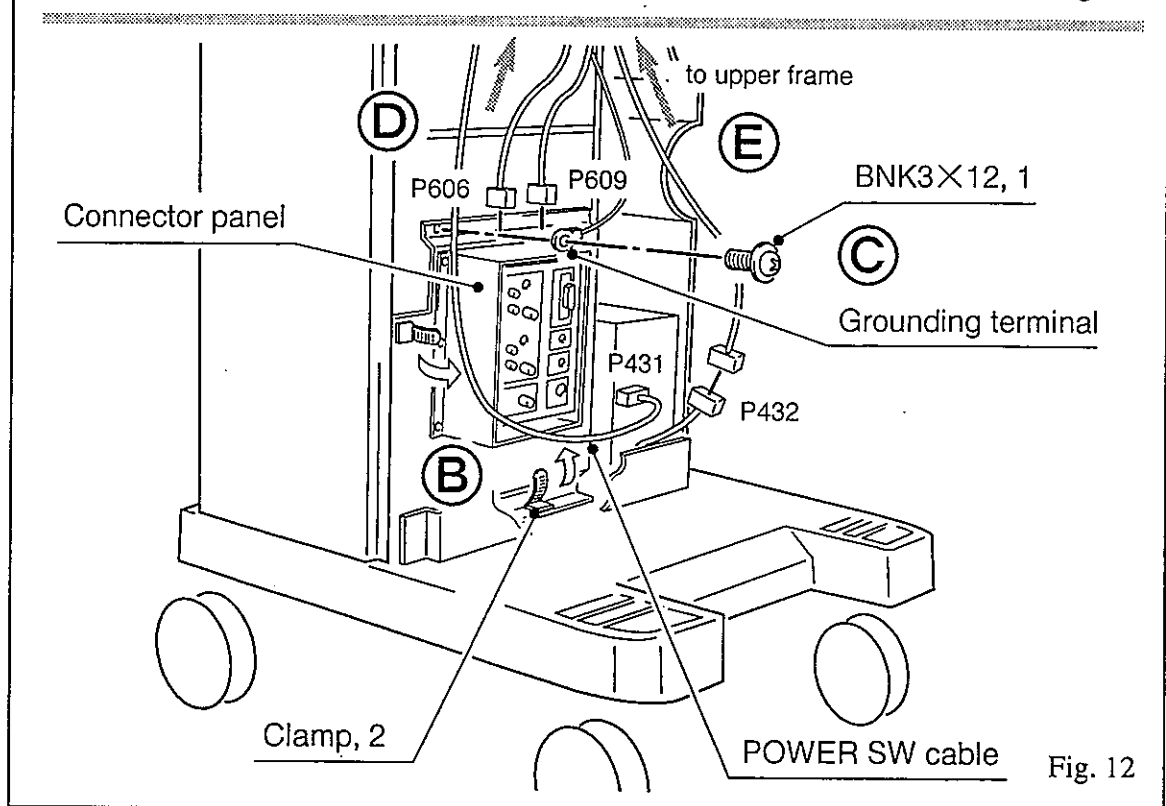

Fig. 12
- (8) Remove POWER switch cable from 2 clamps. (B in fig. 12)
- (9) Unfasten 1 screw and remove monitor cable grounding terminal from reference grounding plate. (C in fig. 12)
- (10) Unplug 3 monitor cable connectors on connector panel and from power cables. (D in fig. 12)
- (11) Pull up all cables coming from panel escutcheon and put them onto upper frame. (E in fig. 12)